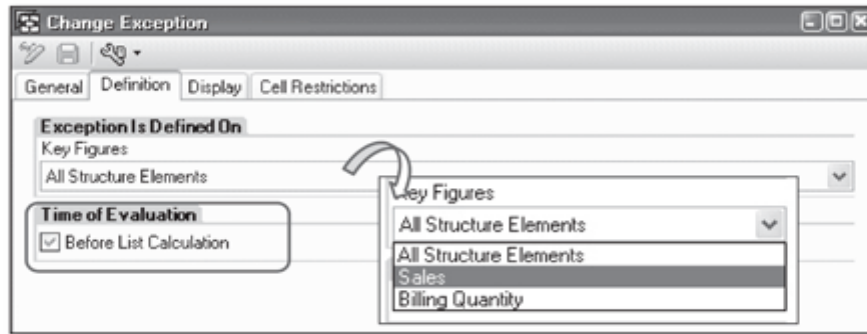

Figure 9.89 Change Exception – Definition
6. After the exceptions are defined, you then select the query element on which this exception should be defined on the Definition tab (see Figure 9.89). In our example, we want to highlight the exception on sales, so select Sales from the Key Figure dropdown. If you want all of the key figures to be evaluated for this, select All Structure Elements. You can also use the setting Before List Calculation if you want the exception to be determined before the local calculations are performed in the query.